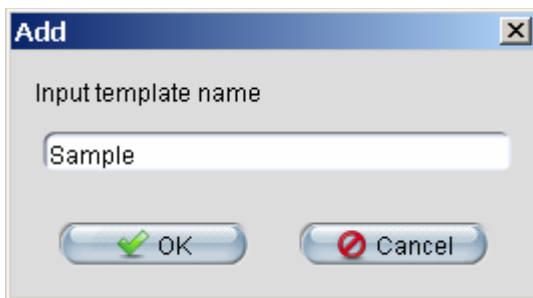

Figure1-5.
2. The **Template Manager** provides a default template. Select it and click the **Add** button to open the dialog box as shown in *Figure1-5*.